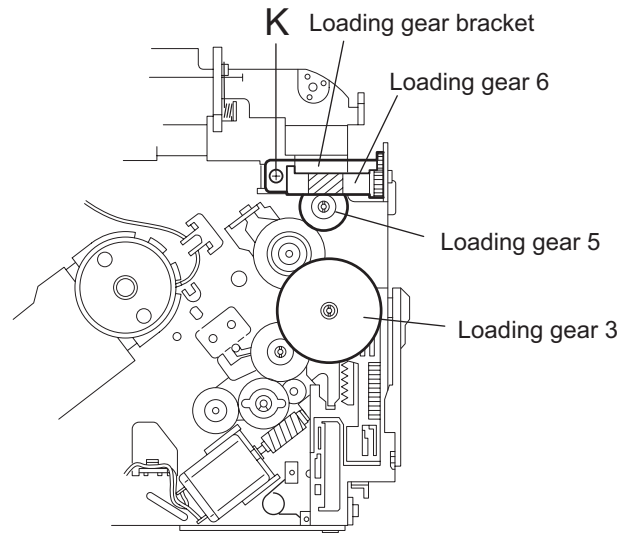
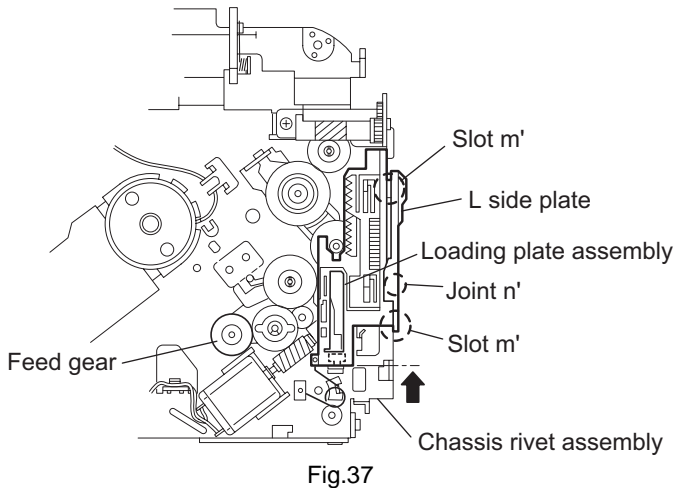
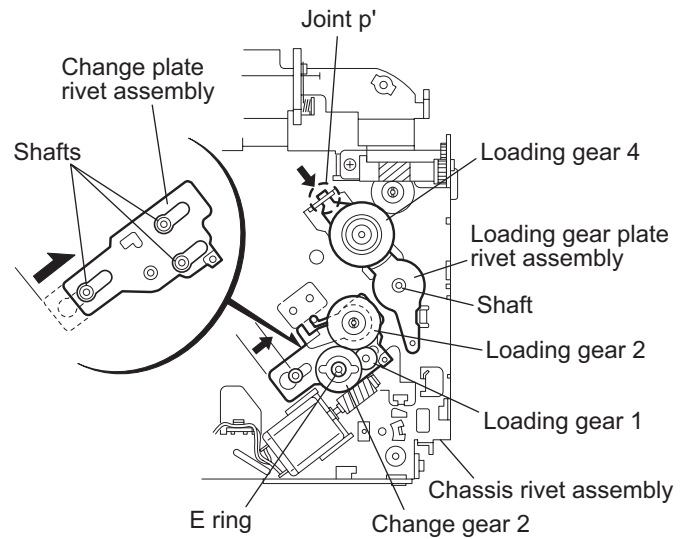

Fig.35
Fig.37
Fig.38
3.2.16 Removing the loading gear 5, 6 and 7 (See Figs.35 and 36)
3.2.17 Removing the gears (See Figs.37 to 40)
- Pull out the loading gear 3. (See Fig.35.)
- (1) Pull out the feed gear.
- (2) Move the loading plate assembly in the direction of the arrow to release the L side plate from the two slots m' of the chassis rivet assembly. (See Fig.37.)
- (3) Detach the loading plate assembly upward from the chassis rivet assembly while releasing the joint n'. Remove the slide hook and loading plate spring from the loading plate assembly.
- (4) Pull out the loading gear 2 and remove the change lock lever.
- (5) Remove the E ring and washer attaching the change gear 2.
- (6) The change gear 2, change gear spring and adjusting washer come off.
- (7) Remove the loading gear 1.
- (8) Move the change plate rivet assembly in the direction of the arrow to release from the three shafts of the chassis rivet assembly upward. (See Fig.38.)
- (9) Detach the loading gear plate rivet assembly from the shaft of the chassis rivet assembly upward while releasing the joint p'. (See Figs.38 and 40.)
- (10) Pull out the loading gear 4.